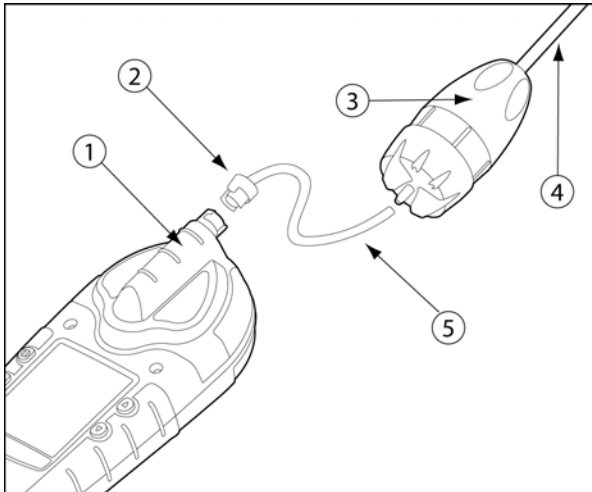

Figure 5. Attaching the Sample Probe
1. Make all of the required connections as illustrated in Figure 5 Attaching the Sample Probe.